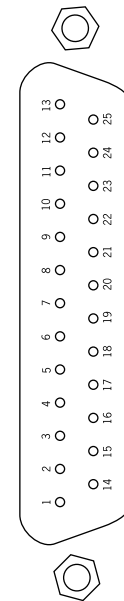

Figure 44. TTL In/Out Connector
This connector provides 8 TTL lines in, 8 TTL lines out and an input control line. Figure 44 illustrates the connector and Table 11 lists the signal/pin assignments.
2. Referring to Figure 44, note that pin 8 = GND and pin 9 = TTL OUT 1.